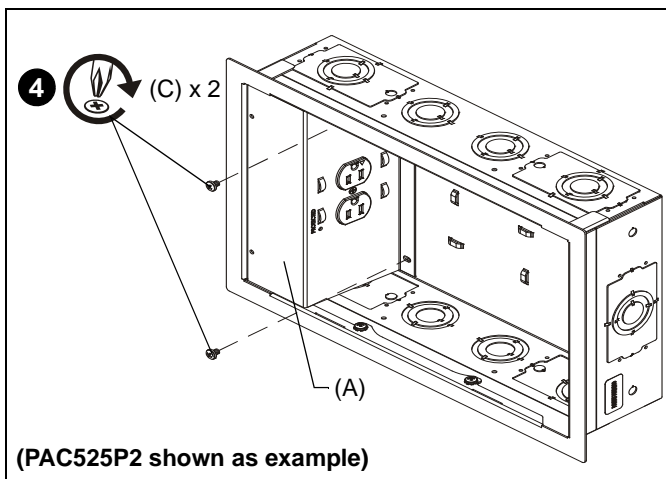

Figure 4
4. Secure power kit assembly to in-wall box using two 10-24 x 1/4" Phillips pan head screws (C). (See Figure 4)